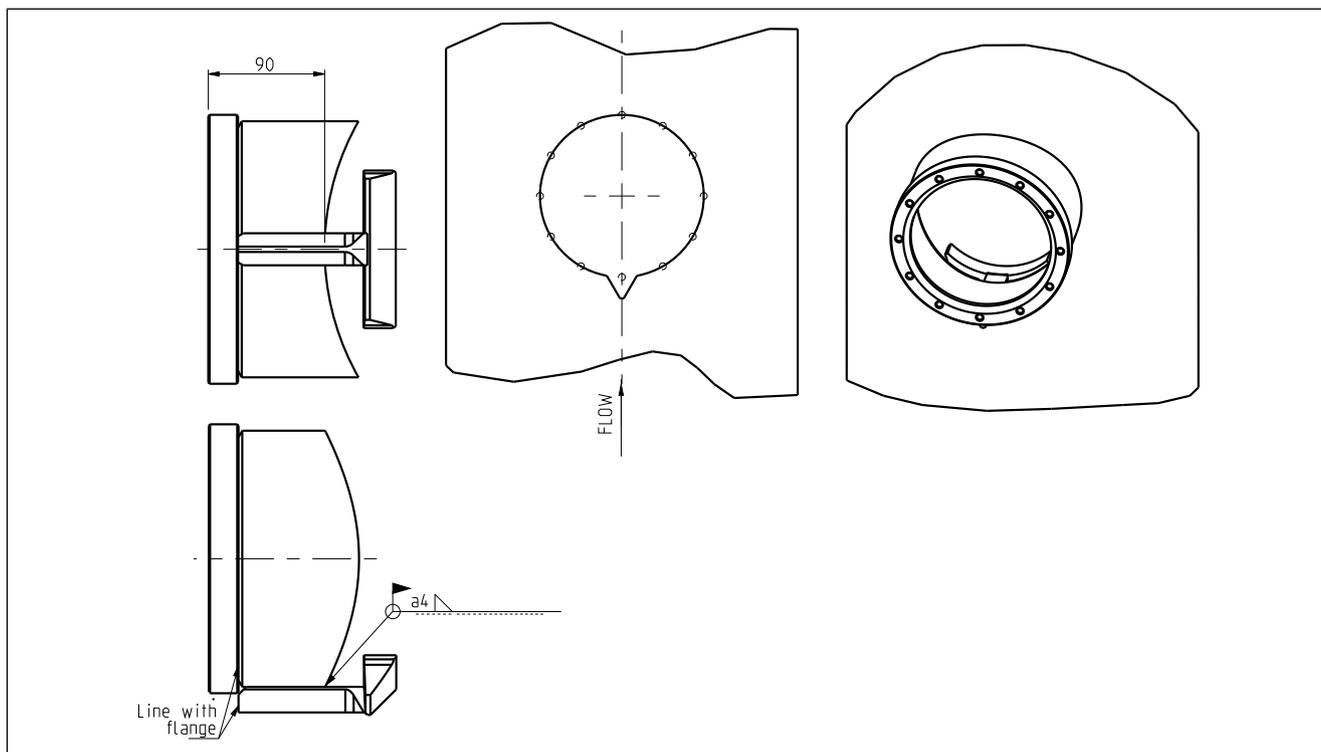

Fig. 11. Installation of protection bar.
1. Profile the coupling as required, use the cutting pattern K08953 for guidance. Bevel the coupling for welding as shown in Fig. 11.
4. Weld the coupling and protection bar to the process pipe as shown in Fig. 11. Sand or etch the weld seam.